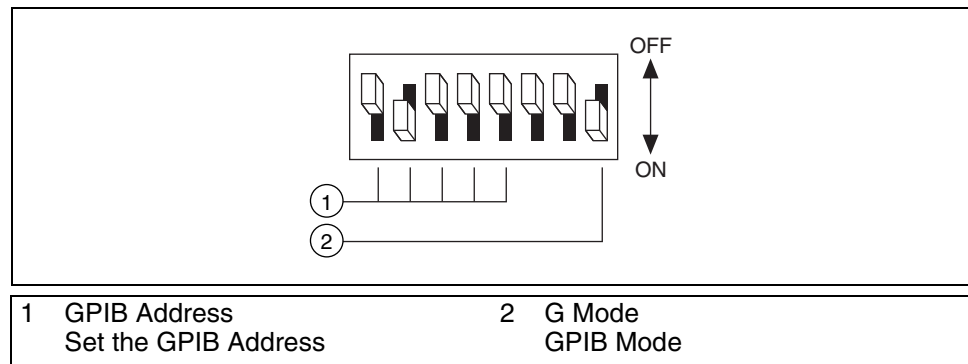

Figure 9-21. GPIB Configuration Settings for the NI Instrument Simulator
- To communicate through GPIB, set the Instrument Simulator switches as shown in Figure 9-21.